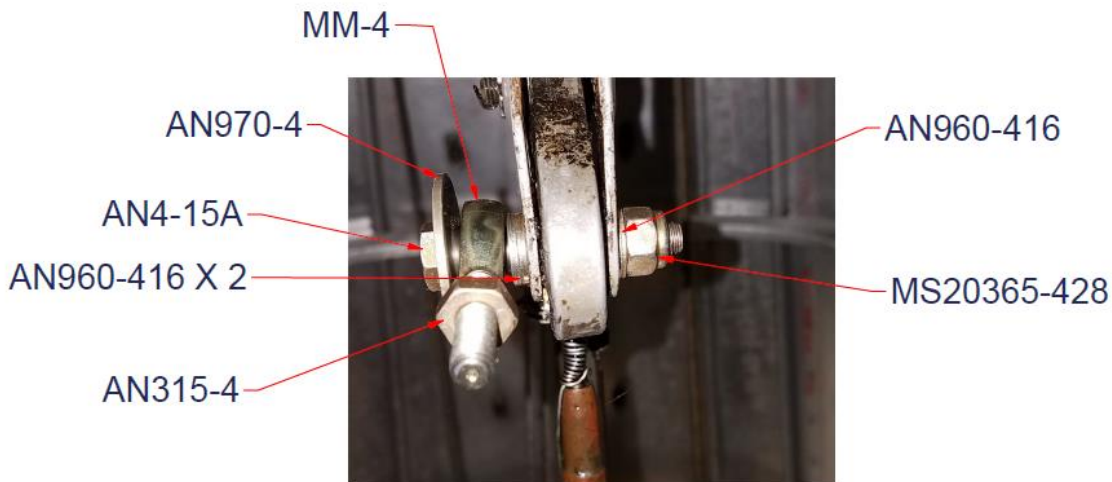

Figure 3-15
12. Remove the AN4 bolt securing the elevator push rod to the bottom of the elevator bellcrank and replace with hardware as shown in Figure 3-15.